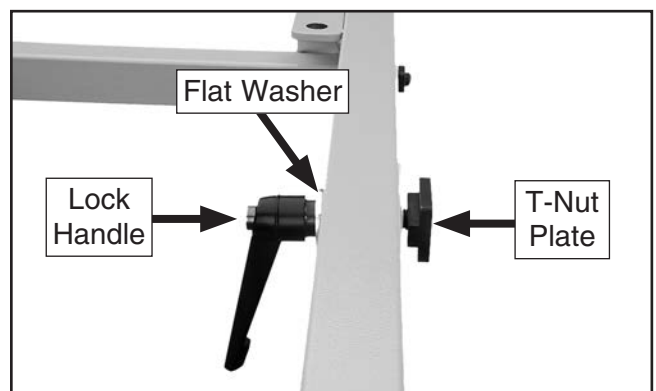

Figure 43. Crosscut lock handle installed on crosscut table.
35. Thread M12-1.75 x 55 adjustable lock handle with a 12mm flat washer through hole in short side of crosscut table and into a M12-1.75 T-nut plate, as shown in **Figure 43**.